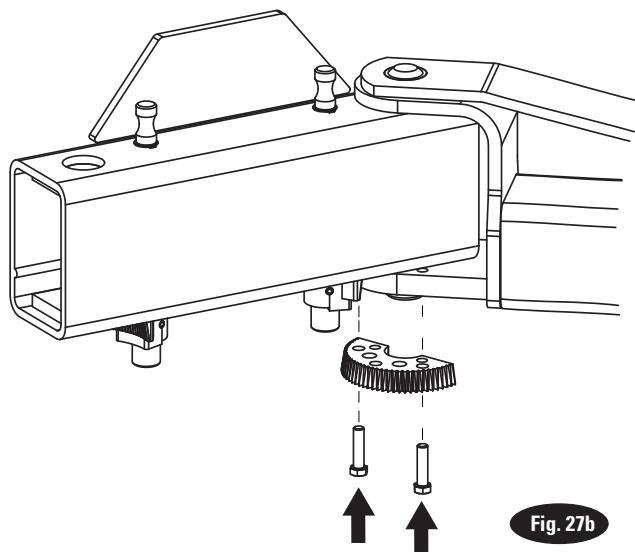

Fig. 27b
**Arms With 3 Holes In Bearing Bars:** Then, install the (2) 3/8"-16NC x 1-1/2" Lg. HHCS ((8) total for all (4) arms) into the gear and arm. Reference Fig. 27b and Fig. 28.